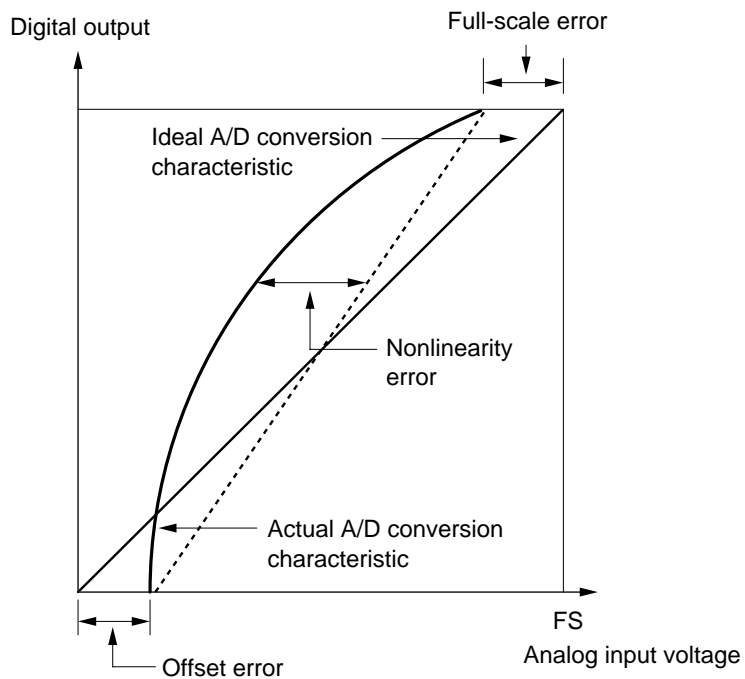

Figure 15-12 A/D Converter Accuracy Definitions (2)
(7) A/D Conversion Accuracy Definitions: A/D conversion accuracy in the H8/538 and H8/539 is defined as follows:
- Offset error: deviation from ideal A/D conversion characteristic of analog input voltage required to raise digital output from minimum voltage value 0000000000 to 0000000001, excluding quantization error (figure 15-12)
- Full-scale error: deviation from ideal A/D conversion characteristic of analog input voltage required to raise digital output from 1111111110 to 1111111111, excluding quantization error (figure 15-12)